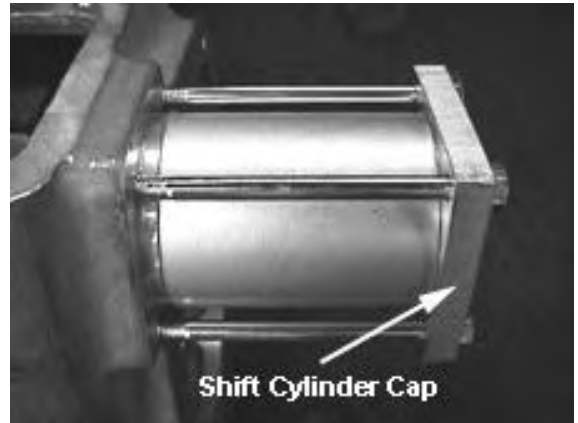

Fig. 81
39. Install the shift cylinder cap using Loctite #242 on the threads. Torque to spec. *See Fig. 81.*